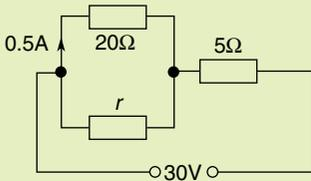

Figure 21
4. Calculate the value of the resistor r in the circuit of Figure 21.